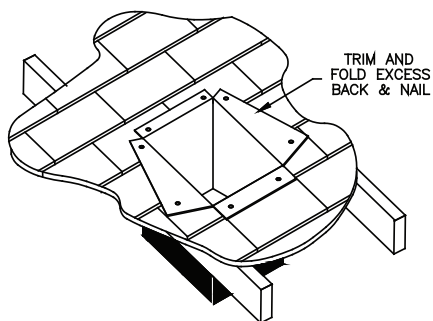

Figure 32
7. If the Support Box protrudes the roofline use tin snips to cut from the top corners down to the roof line, and fold the resulting flap over the roof sheathing (Figure 32). Before nailing it to the roof, run a bead of non-hardening sealant around the outside top edges of the Support Box so as to make a seal between the box and the roof. Clean out any combustible material or debris from inside the Support Box.
9. Connect the necessary amount of Pipe Sections to reach the stove and extend at least 12-inches above the roof before attaching Termination Cap (Figure 32).